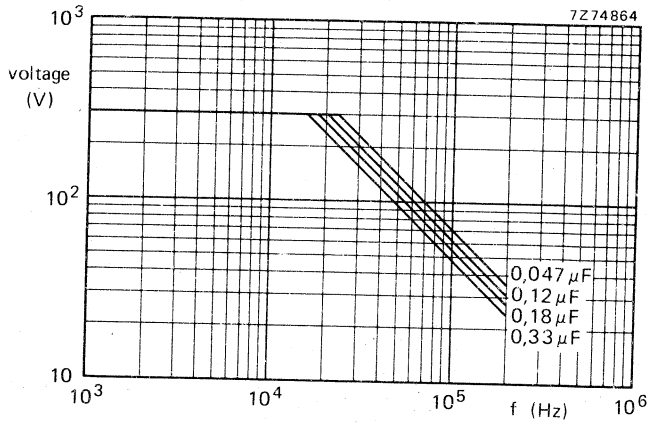

Fig. 3 Maximum permissible r.m.s. value of sinusoidal voltages as a function of frequency at $T_{amb} \leq 70^\circ\text{C}$, for 630 V version.
* At $T_{amb} \leq 70^\circ C$ the maximum permissible sinusoidal voltage can be found in Figs 3 to 6.